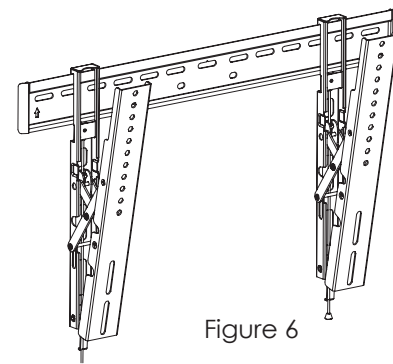

Figure 6
a. A maximum of 12° forward tilt can be achieved (Figure 6). To increase tilt, hold the TV at the top and pull away from the wall carefully to desired position. To reduce tilt, hold the TV at the top and push back toward the wall. No locking is required.